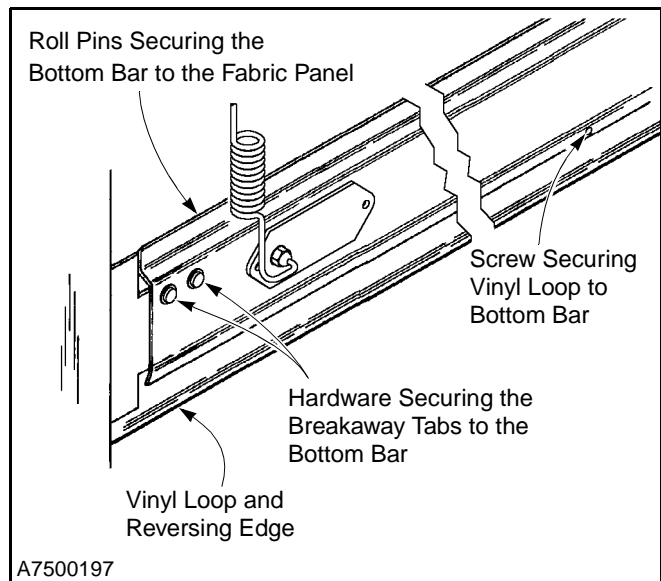

Figure 62
1. Inspect the roll pins securing the bottom bar to the fabric. It is critical that hardware is tight to prevent shifting of the fabric in the bottom bar. (See Figure 62.)